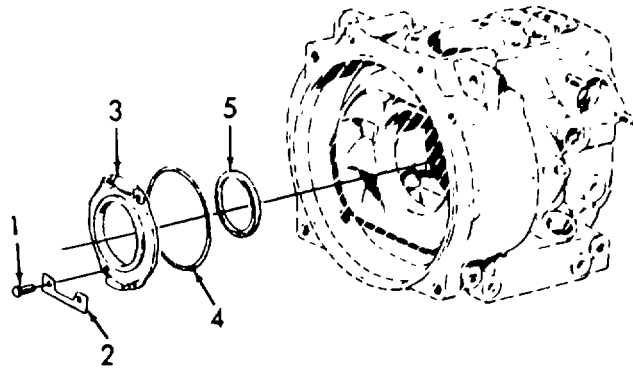

Figure 6-11. Oil Seal (Flywheel Side) Removal/Installation.
a. Removal. (Refer to figure 6-11).
- (1) Bend tabs of plates (2) away from screws (1).
- (2) Remove four screws (1) and two plates (2).
- (3) Remove cover (3) and packing (4). Discard packing (4).
- (4) Remove seal (5) from cover (3). Discard seal (5).